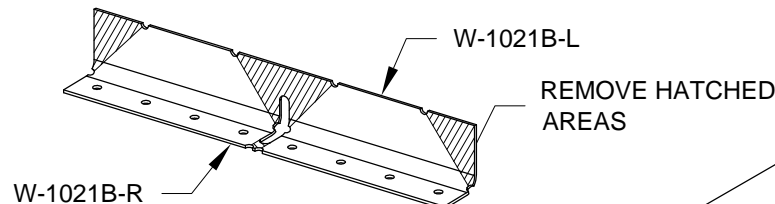

FIGURE 1: STIFFENERS
Step 2: Mark then break apart the W-1021B Flap Gap Stiffener to create the W-1021B-L and -R Flap Gap Stiffeners as shown in Figure 1.